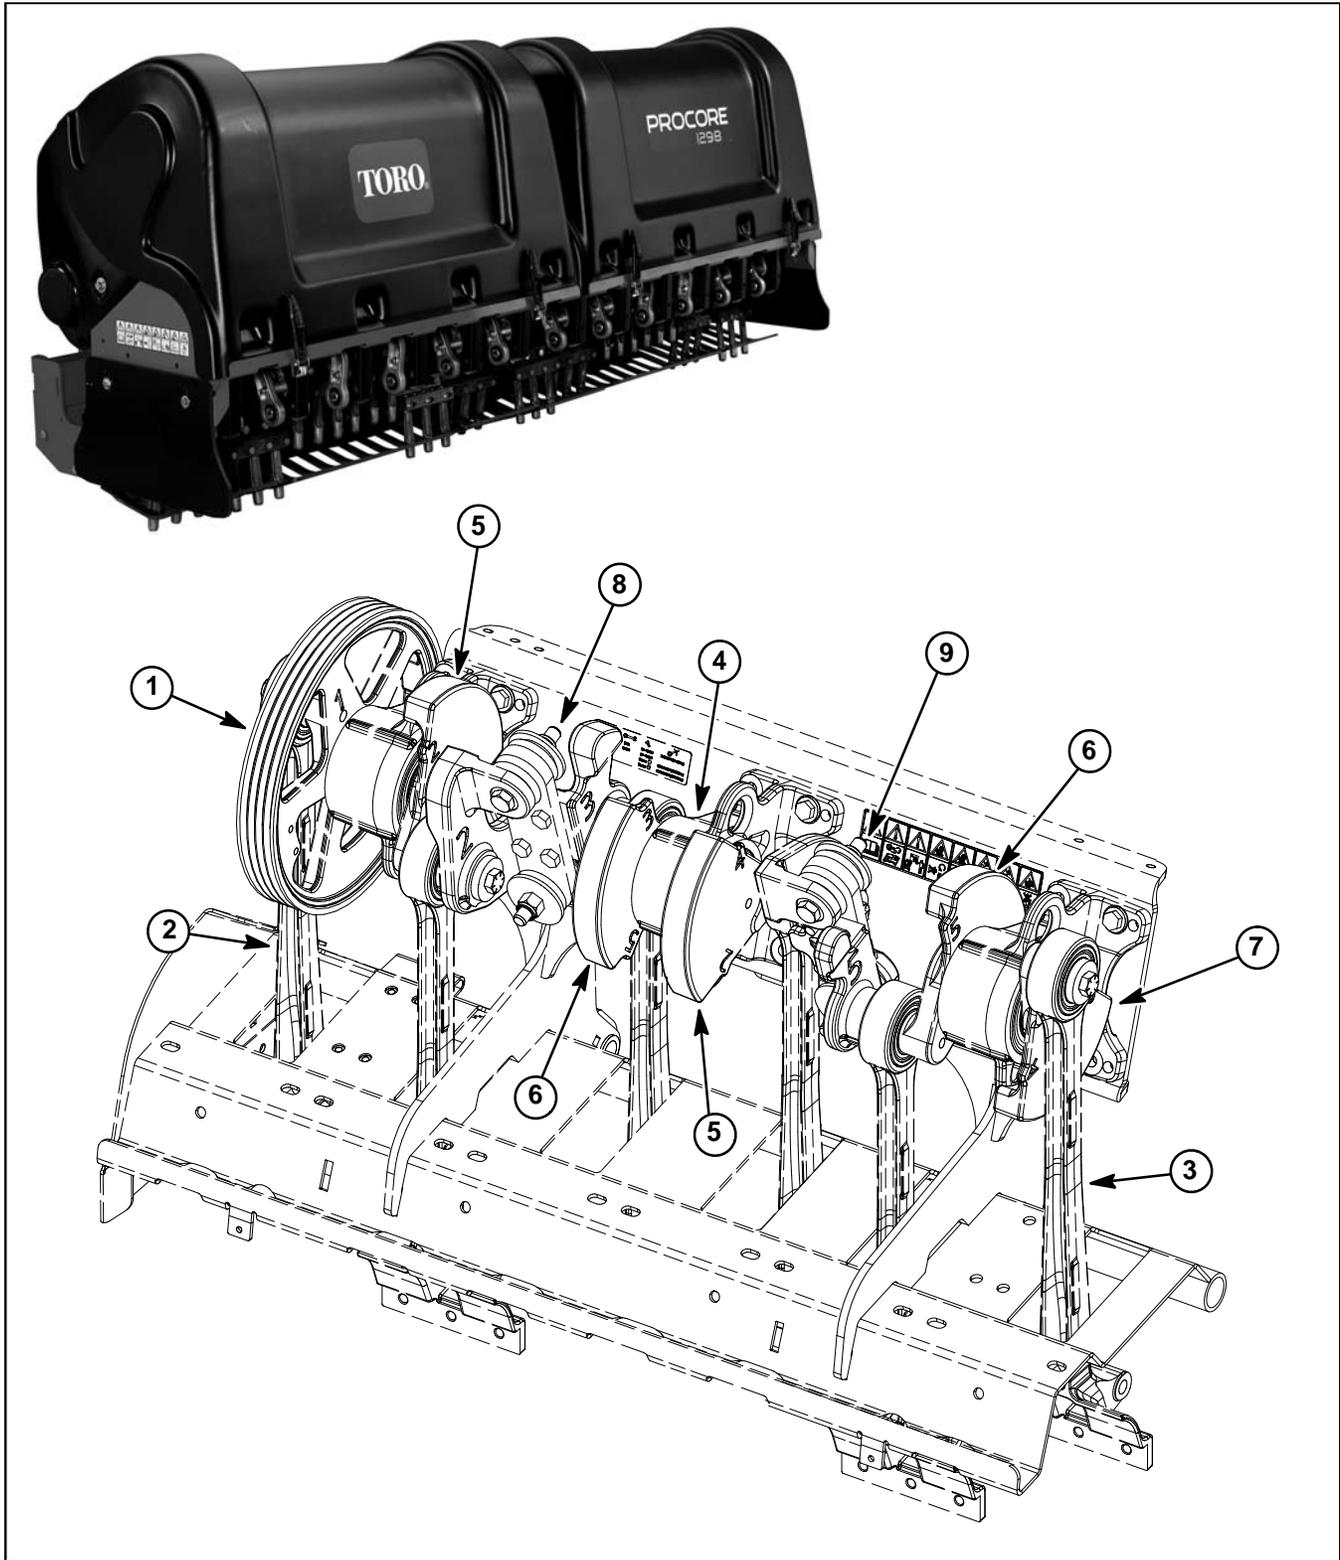

Figure 2
Coring Crankshaft (Fig. 2)
Each of the ProCore 1298 coring crankshaft assemblies is composed of six (6) crankarms. The crankarms are timed for proper aerating operation. Coring crankshaft positions are identified based on their relationship with the crankshaft driven pulley. The #1 position is at the pulley side of the crankshaft (Fig. 2).